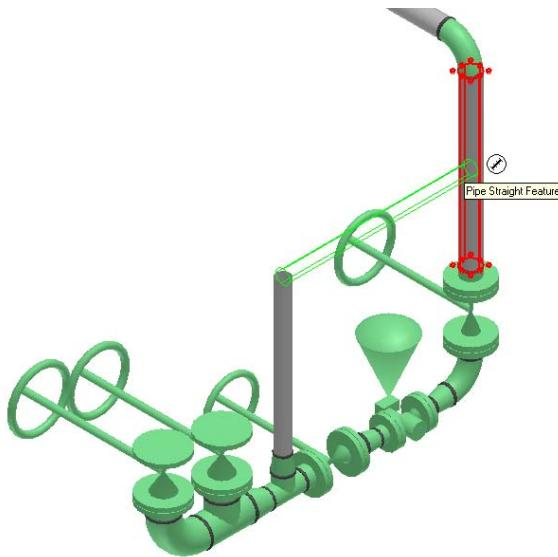

Figure 94: Routing the Pipe
58. Make a 90-degree turn and route into the vertical straight feature to create a by pass line, as shown in Figure 94.